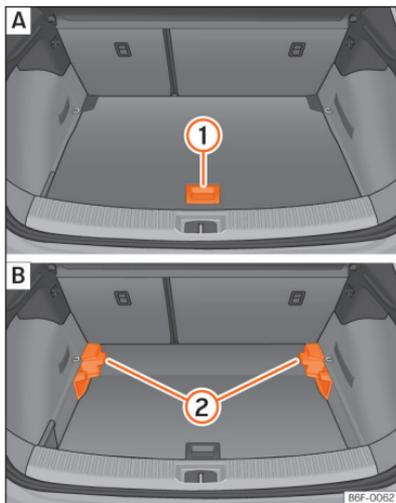

Fig. 145 Variable luggage compartment floor:
- To move from the low position to the high position, lift the floor using the handle » Fig. 145 (1), and pull it back until the front of the floor has fully passed the supports (2).
- Move the floor forward over the supports as far as the rear seat backrest and then lower the floor with the handle (1).
- To move from the high position to the low position, lift the floor using the handle » Fig. 145 (1), and pull it back until the front of the floor has fully passed the supports (2).
- Now let the front part fall to the floor and slide the floor forwards as far as the rear seat backrest; lower the floor at the same time with the handle (1).
- Lift the variable floor in the high position using handle » Fig. 145 (1), pull it up and push it towards the backrest of the rear seats until it folds along the hinge line and the movable part of the floor is resting on itself.